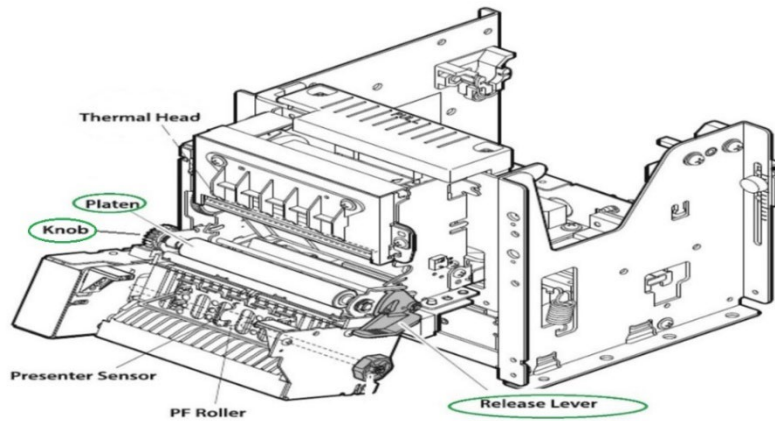

Figure 69. Printer platen cleaning
- Wipe the platen while slowly turning it with the black knob on the left hand side as seen in Figure 69